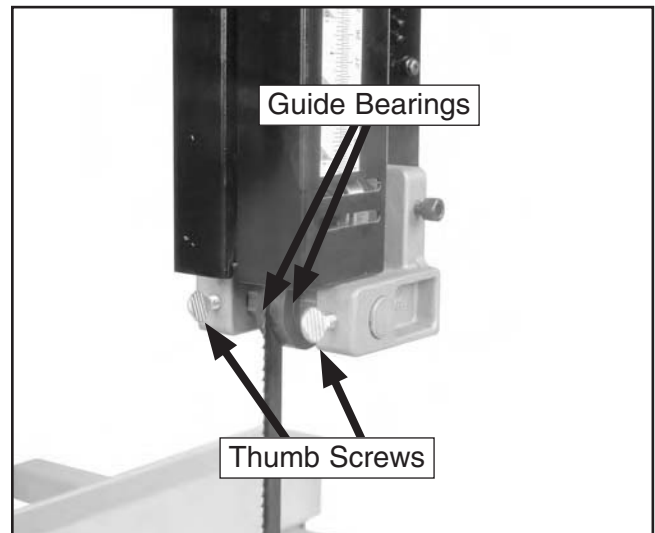

Figure 26. Front of upper blade guide.
3. Loosen the thumb screws shown in **Figure 26** and slide the guide bearings away from the blade.